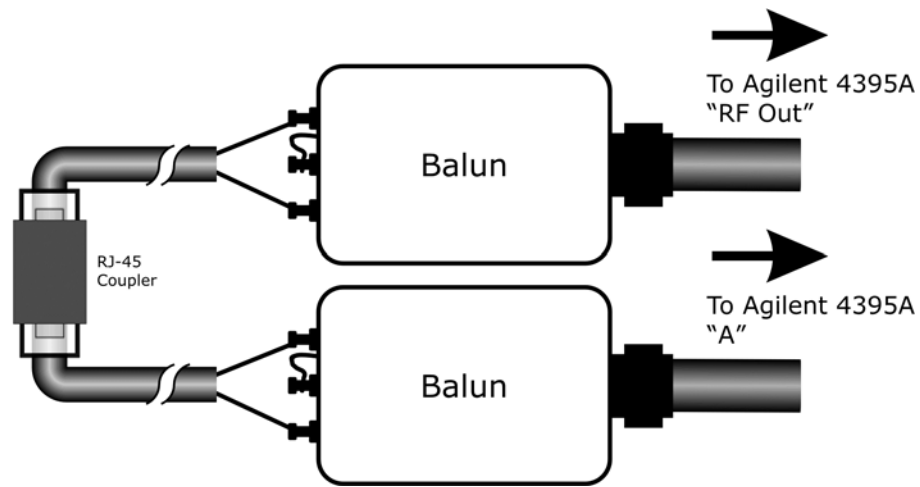
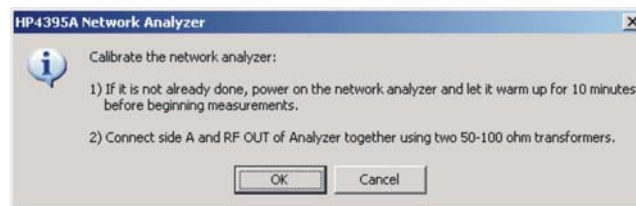

Figure 4-3 Bypass set-up for normalization
Figure 4-5 Network analyzer calibration instructions
- Step 6:** A dialogue box tells you to connect the 100 Ω sides of the baluns together so that the 4395A can run its normalization procedure (*Figure 4-5*). Bypass the DLS-8234 by connecting pins 3 and 4 of one transformer to pins 3 and 4 on the other transformer, as shown in *Figure 4-3*. When you have bypassed the DLS-8234, click the **OK** button. Normalization of the analyzer takes a few seconds.